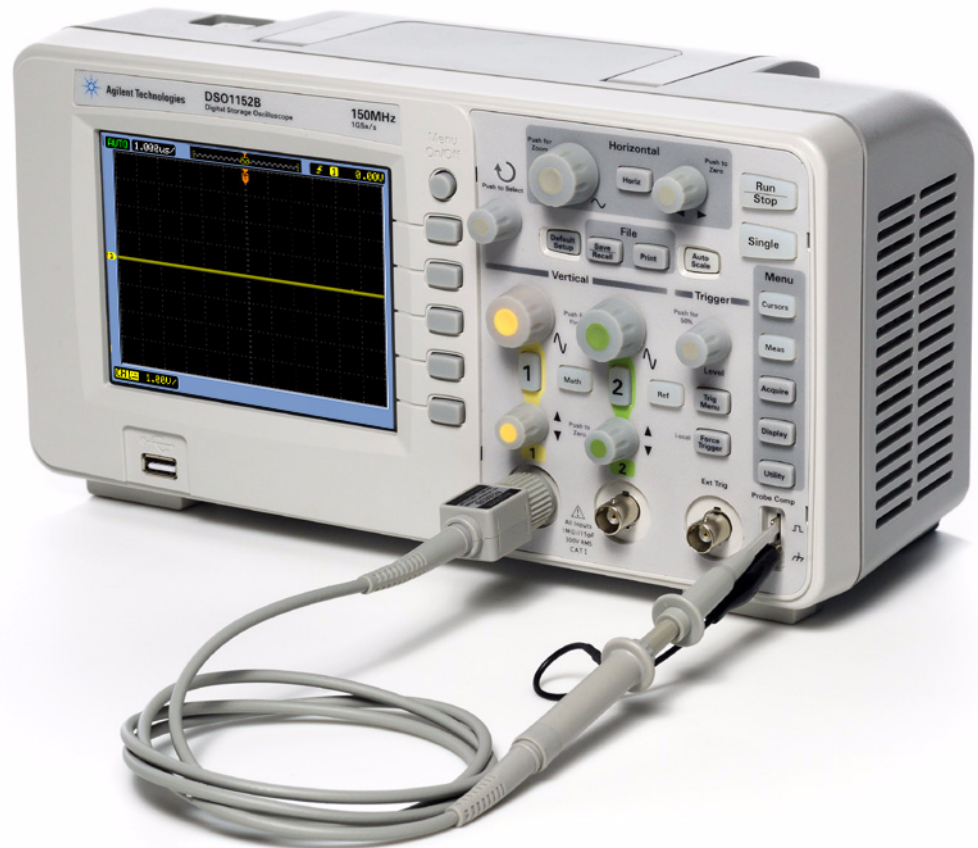

Figure 8 Connect a probe between the channel-1 input and the probe compensation terminal
- 2 Connect one oscilloscope probe between the channel-1 input BNC and the terminal labeled **Probe Comp** that has the “pulse” shape as shown in Figure 8. Connect the probe's ground clip to the terminal with the ground symbol. Note that on 4-channel models, the **Probe Comp** terminals are located below the display.